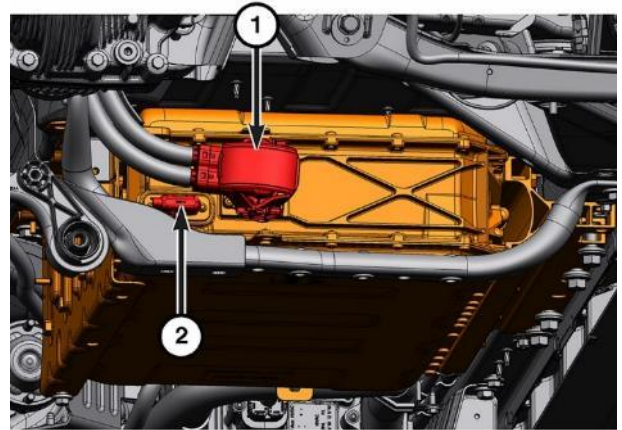

Figure 50 – HV Battery - Secondary
- 35. Disconnect and cover the low voltage wire harness connector (Figure 50).
- 36. Disconnect and cover the HV cable connector (Figure 50).
55. Connect the secondary battery HV cable connector (Figure 50).
56. Connect the secondary battery low voltage wire harness connector (Figure 50).